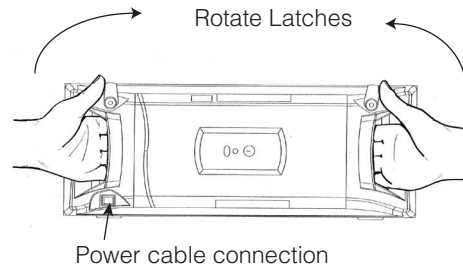

Fig. 3
4. Rotate the two latches and remove the door as shown in Figure 3. Place the door in a secure location.
**Handle the door only by using the handles on the front of the door. Grasp the door by the handles as depicted in Figure 3 to remove and replace the door. Do not handle the door on the edges. Metal edges may be sharp and could result in injury if the door is not handled properly.**